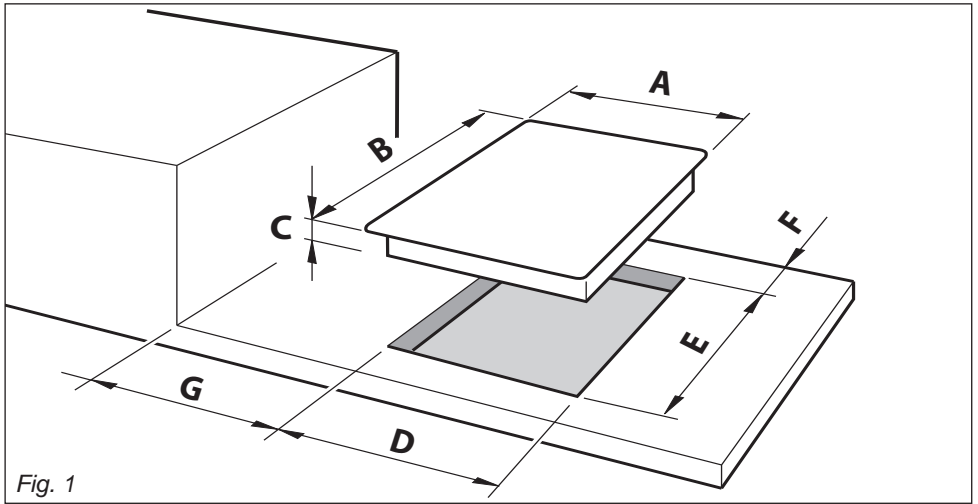

Fig. 1
In order to install the cooker top into the kitchen fixture, a hole with the dimensions shown in fig. 1 has to be made, bearing in mind the following:
- The cooker top must be kept no less than 200 mm away from any side wall (from side edge of cutout - figs. 1, 2).
- The hob must be installed at least 60 mm from the wall (from rear edge of cutout - fig. 1).
- Cut the unit according to the dimensions in fig. 1.